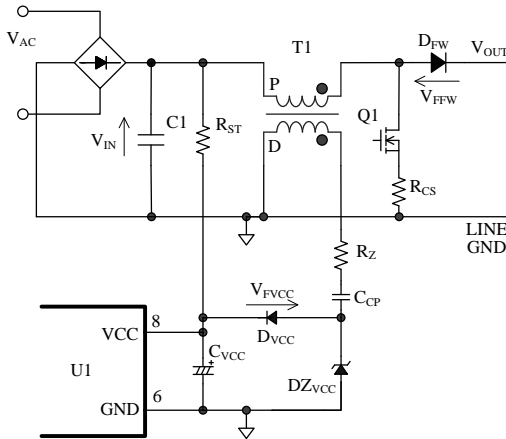

Figure 9-2. VCC Pin Peripheral Circuit (Power supply from auxiliary winding)
When power supply of VCC pin is supplied from auxiliary winding as shown in Figure 9-2, the condition of  $N_D/N_P$  is set to larger rate of Equation (8) or Equation (9).